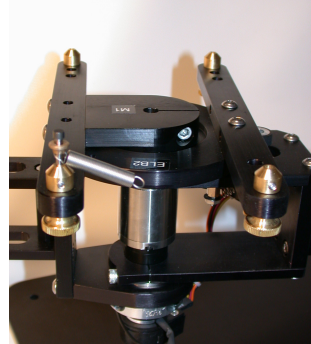
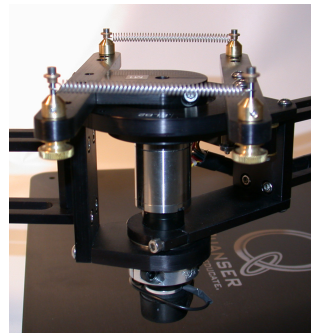

Figure 4.2: Inserting One Spring And Retainer
Figure 4.3: Intermediary Spring Assembly
1. For each of the two flexible joint, position the four spring anchor mechanisms into the desired mounting holes located on the support bars. Do so by using the anchor thumbscrews. Installed spring anchors can be seen in Figure 4.2.
3. Insert each spring end hook onto each support post. Then also insert the brass retainer on top of the spring hook. This is illustrated in Figure 4.2. The resulting spring assembly should be similar to the one shown in Figure 4.3.